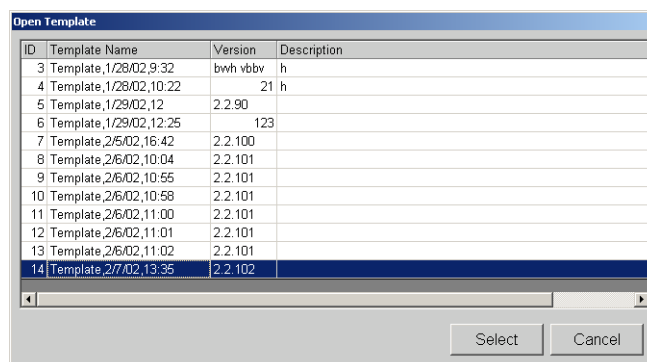

Figure 5-66 Open Template To Update New Lots
1. On the **Home** tab, click **New Lot**. The **Open Template** dialog box opens. See Figure 5-66.